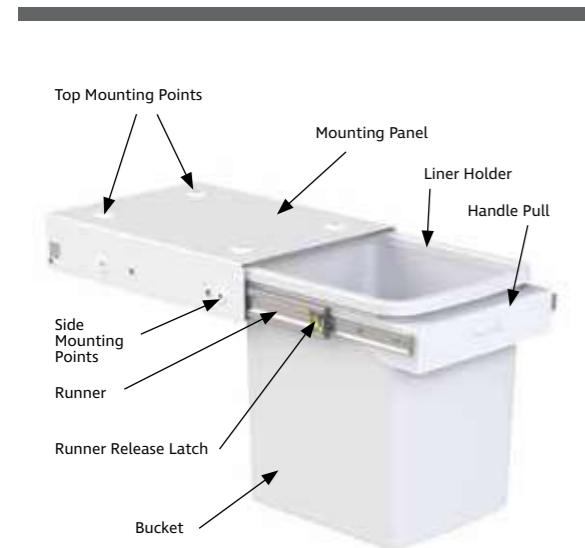

FIG 1 - Bin Parts for Handle Pull Models
- Press the yellow runner release latches on both sides. Refer to FIG 1.